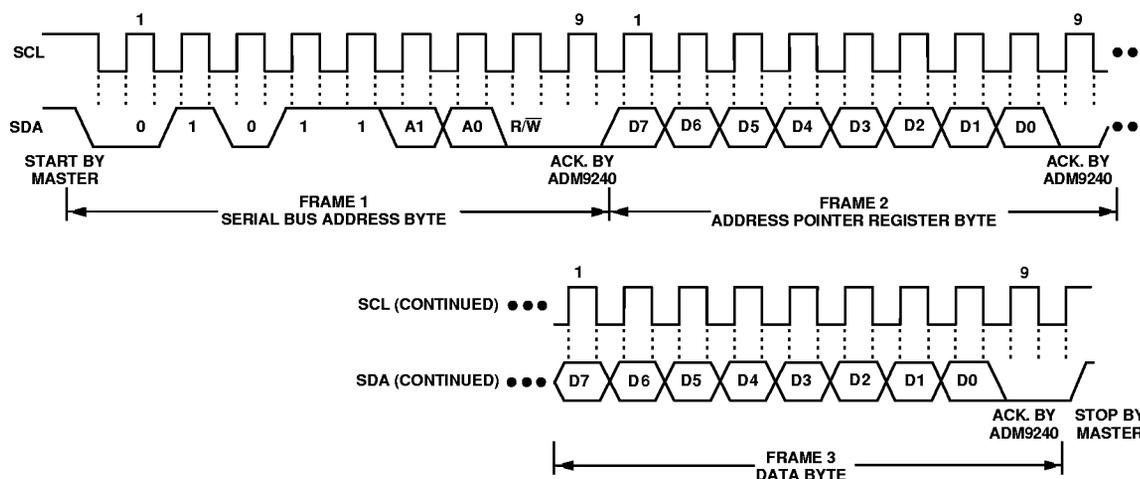

Figure 2a. Writing a Register Address to the Address Pointer Register, then Writing Data to the Selected Register
This is illustrated in Figure 2a. The device address is sent over the bus followed by R \overline{W} set to 0. This is followed by two data bytes. The first data byte is the address of the internal data register to be written to, which is stored in the Address Pointer Register. The second data byte is the data to be written to the internal data register.
2. In Figures 2a to 2c, the serial bus address is shown as the default value 01011 (A1) (A0), where A1 and A0 are hardwired to either Logic 0 or Logic 1.